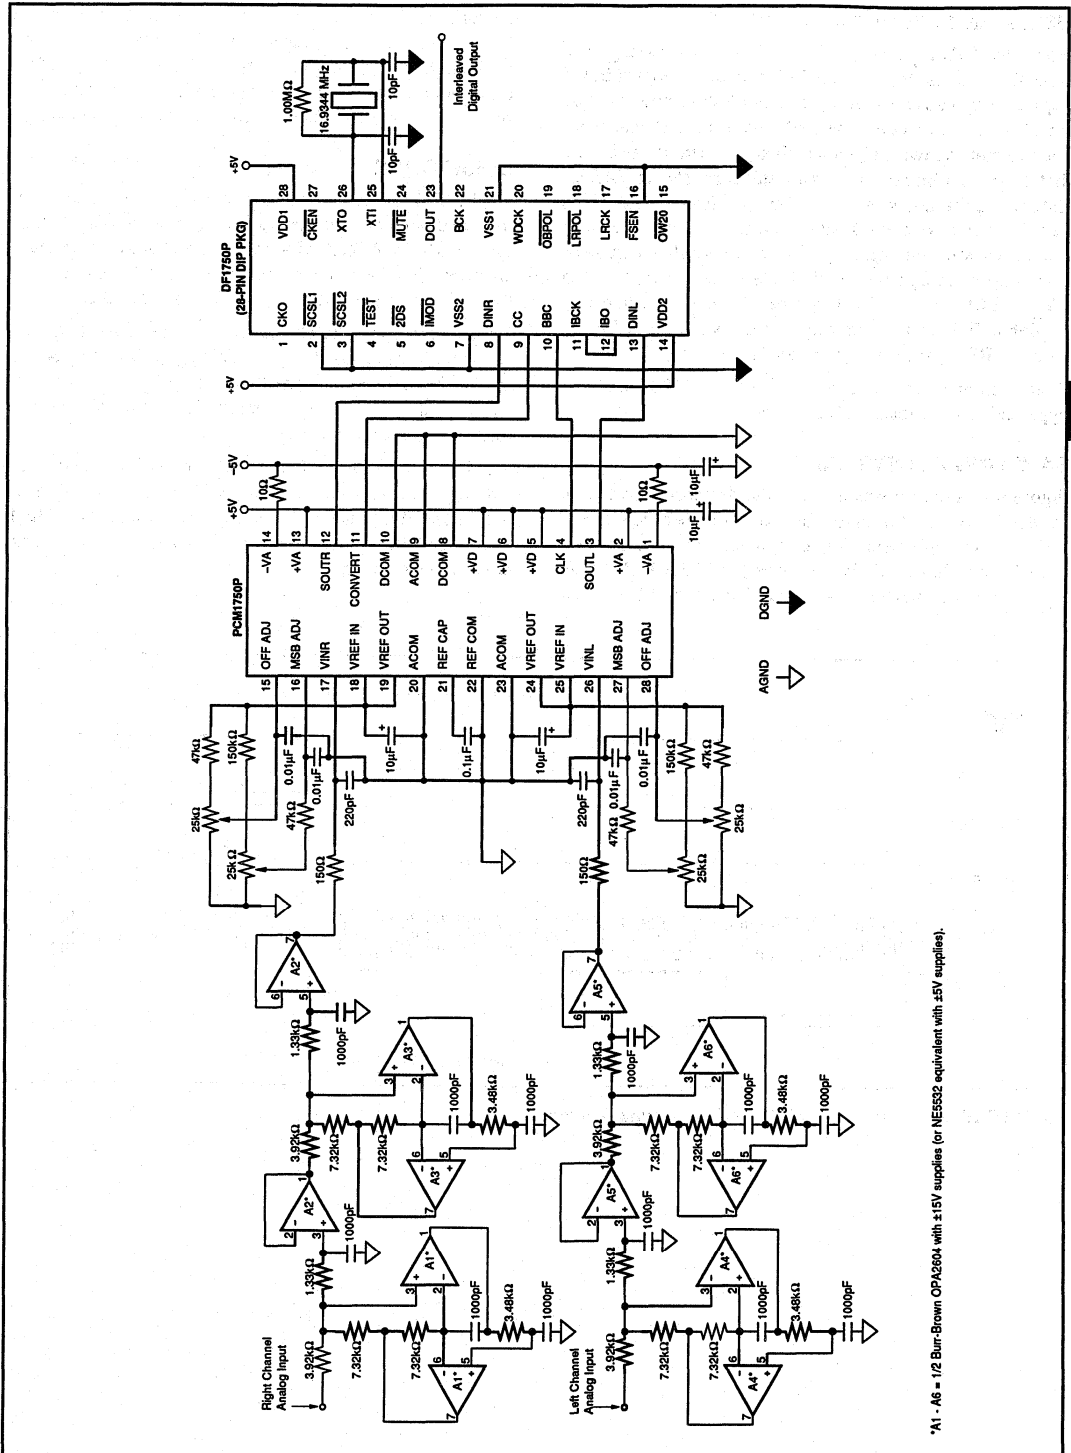

FIGURE 9. Complete Sampling A/D Circuit with Anti-aliasing and Digital Filter, (44.1kHz output data rate).
To prevent unwanted input signals from being aliased into the passband of the converter, it is necessary to suppress all out of band signals above 1/2 the sampling frequency of the ADC by using a low-pass filter. The requirement for an anti-aliasing filter, however, can be reduced by using oversampling techniques. By raising the sample rate of the converter by a factor of 2 or even 4, the roll off of the anti-aliasing filter can be reduced. In Figure 9, a 6th order, linear-phase, anti-aliasing filter is implemented using low-cost dual audio op amps. This filter will suppress frequencies above 96kHz by 80dB. For many applications a 4th or 2nd order anti-aliasing filter will be adequate when using the PCM1750 in the 4 oversampling mode.
Figure 9 is a partial schematic of the demonstration fixture for the PCM1750 (orderable by model number DEM1133). It shows the implementation of (1) a 6th order, linear-phase, anti-aliasing filter (22kHz low-pass); (2) the PCM1750P A/D converter; and (3) a 4 digital decimation filter called